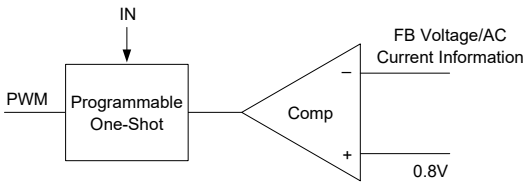

Figure 4. Simplified Control Schematic
The simplified control schematic is shown in Figure 4. The high-side switch on-time is determined solely by a one-shot whose pulse width is inversely proportional to input voltage (IN). The one-shot is triggered when the internal 0.8V is higher than the combined information of FB voltage and the AC current information of inductor, which is processed and obtained through the sensed lower-side MOSFET current once it turns-on. The added AC current information can help the stability of constant-on time control even with pure ceramic output capacitors, which have very low ESR. The AC current information has no DC offset, which does not cause offset with output load change, which is fundamentally different from other  $V^2$  constant-on time control schemes.